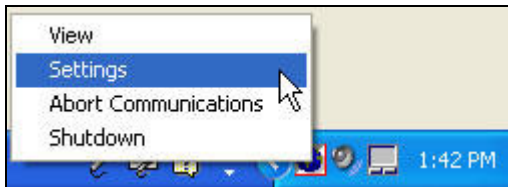

Figure 3.0.2
2. Click on **Settings** (Figure 3.0.2).